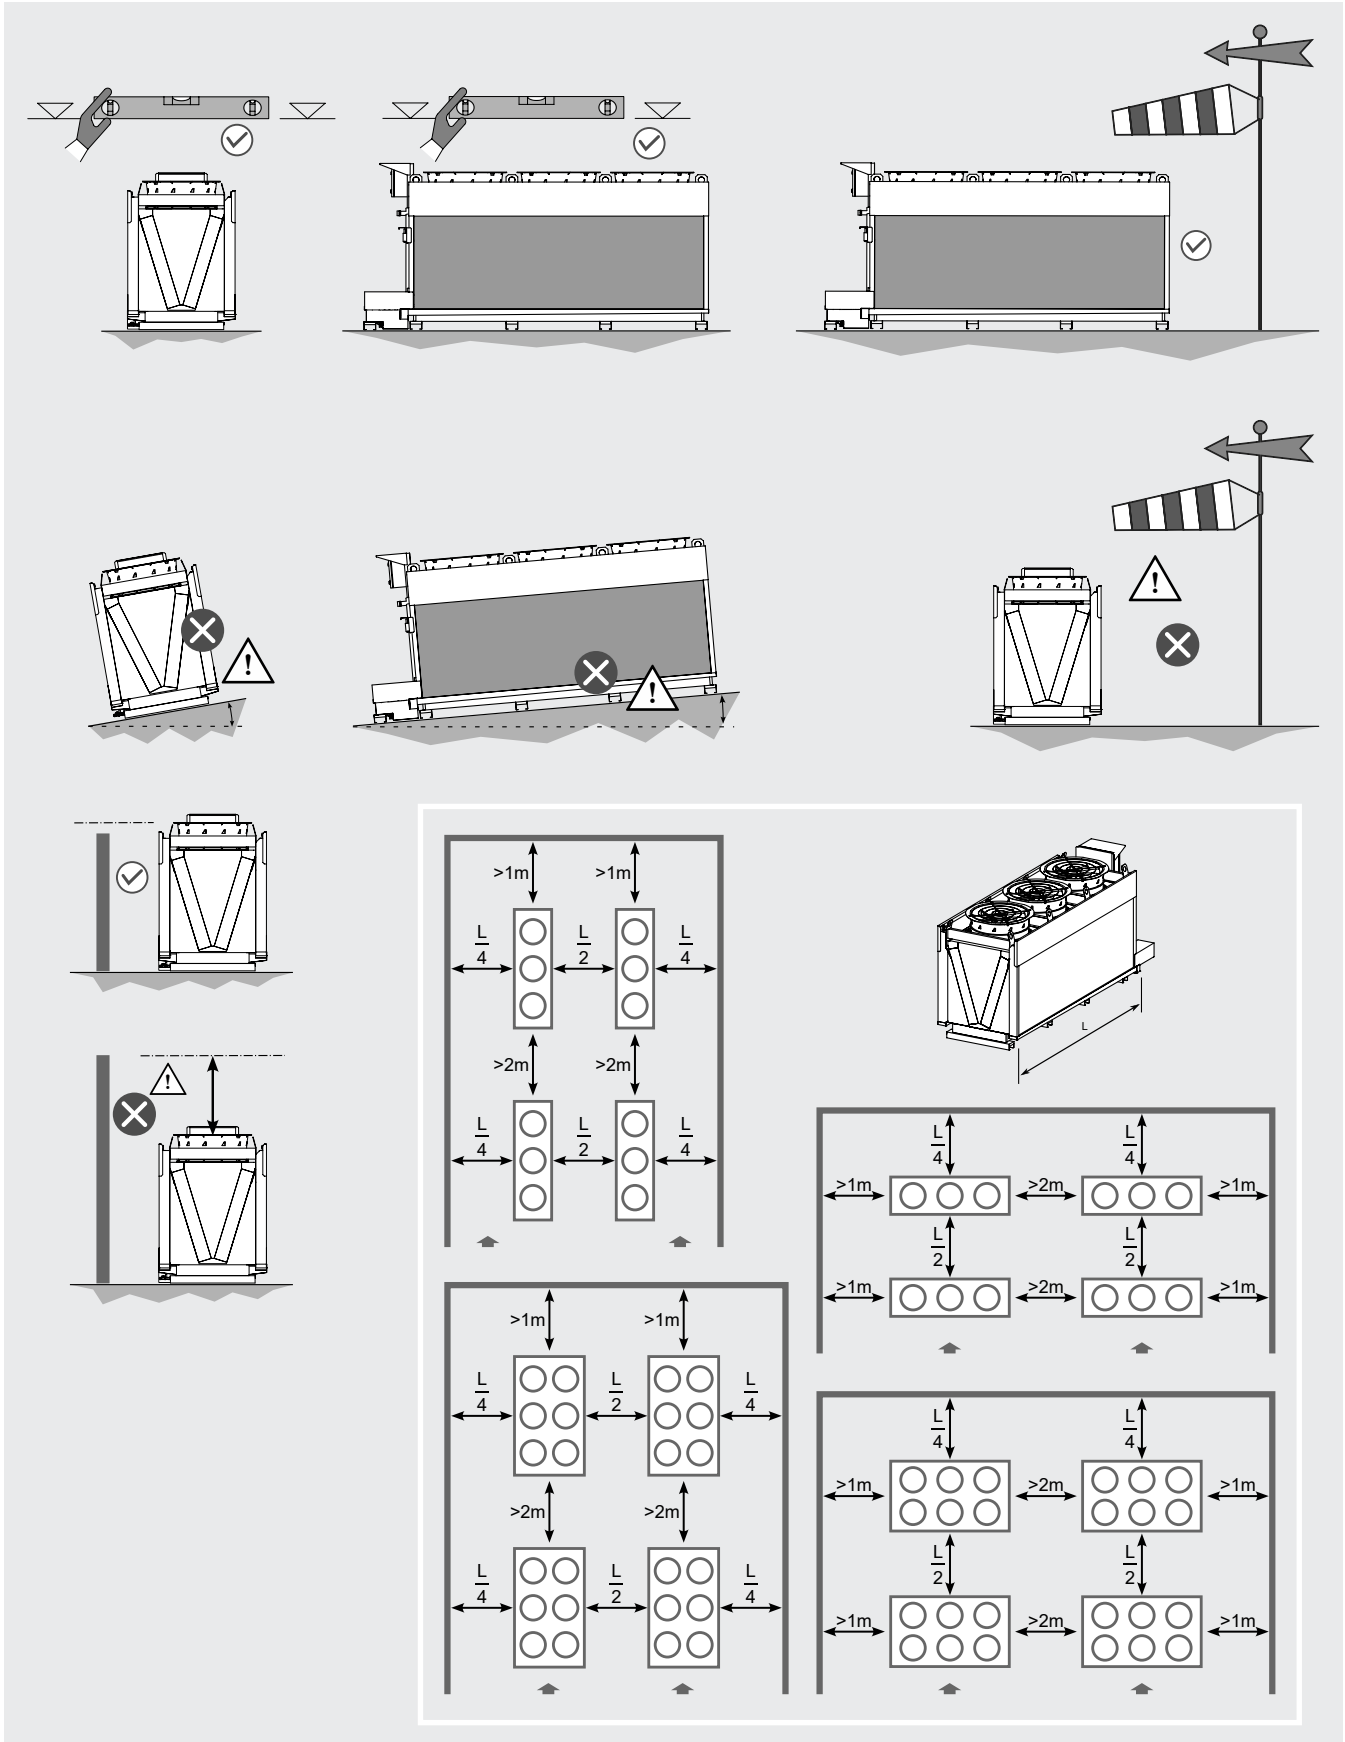

Figure 9
- 6.6 Provide space adequate to the circulation of air and for maintenance. Avoid directing the air flow against surfaces that are reflective or that otherwise increase the noise level. The minimum space between the models may be reduced according to the height of positioning with the use of special raised legs or a support platform. For optimal operation, position the model right-angled to the direction of the prevailing winds. For installations that are different from what is indicated, contact Modine. The model must be installed on a perfectly horizontal flat surface capable of bearing the weight of the model. See Figure 9.